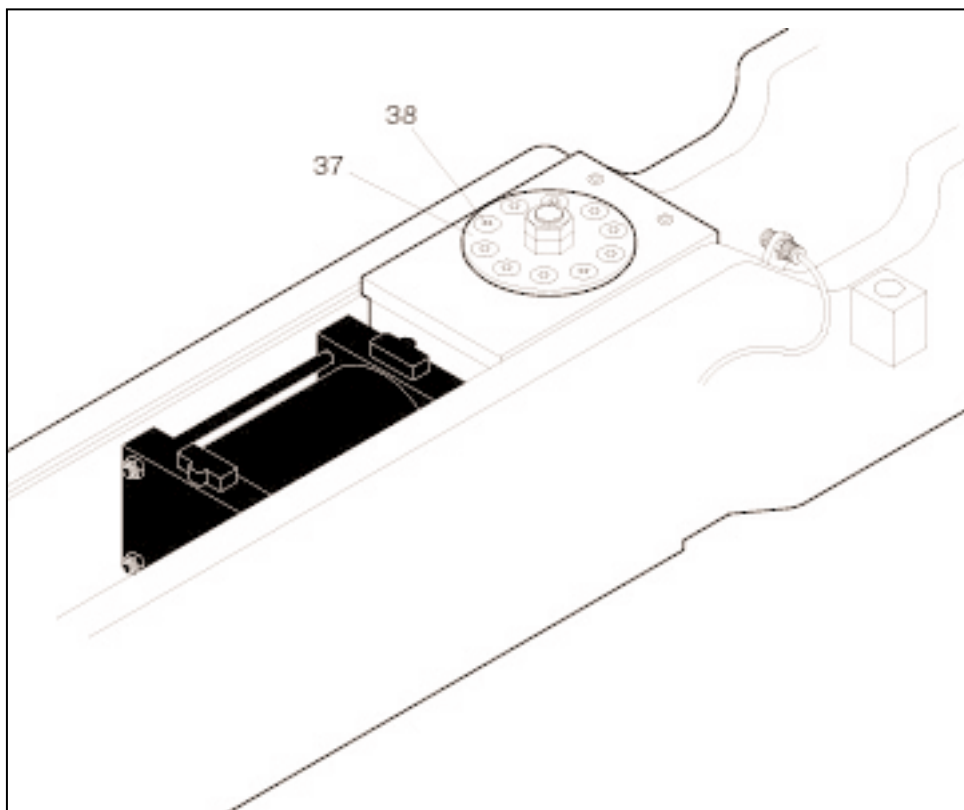

Figure 16.1 HEAD CLAMP.
16.2.1 Procedures to check spring tension (refer to figures 16.1 and 16.2):